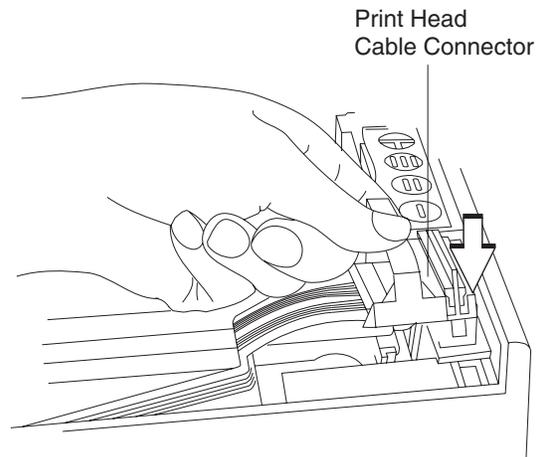

Figure 5-3. Print Head Cable
- 4** Ensure that the print head cable is connected to the printer card. See Figure 5-3.